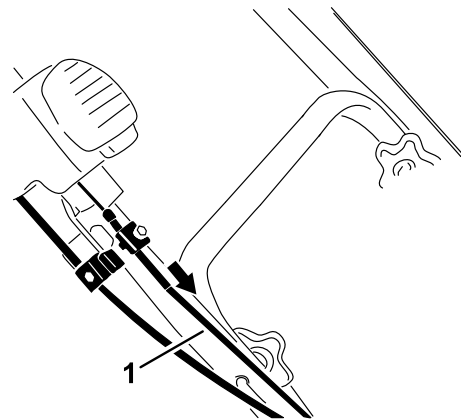

Figure 38
5. Pull the upper cable casing forward until you remove the slack in the cable, and tighten the screw on the upper cable clamp securely (Figure 38).